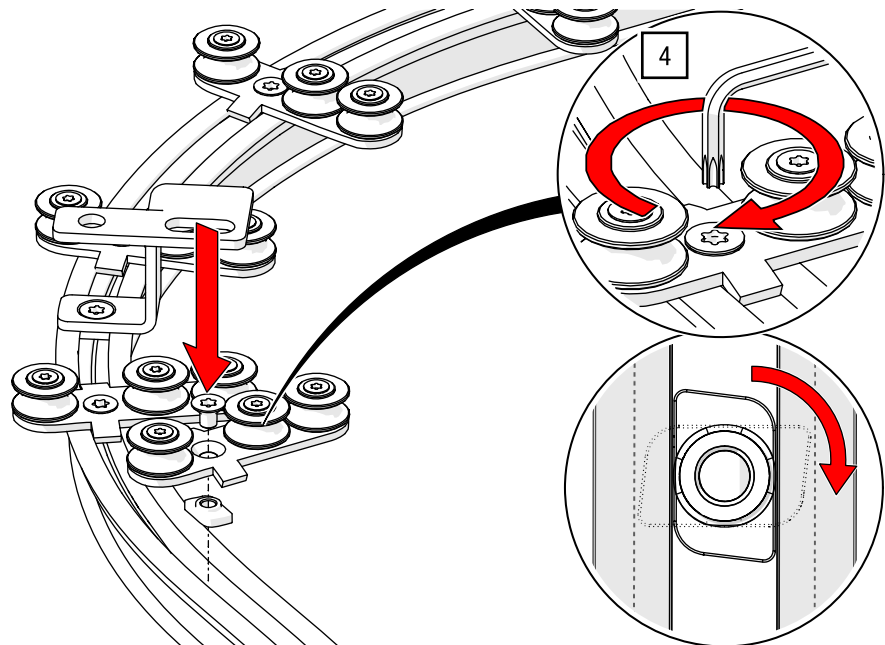

Fig. 89: Top cord operation – Install cord guide for curve
4. Position one of the supplied cord guides in each of the curves close to the suspensions and attach the rest to the track bend (double pulley on the opposite side of the cord clamp) using a TORX®-key T40 and 27 Nm (see Fig. 89).